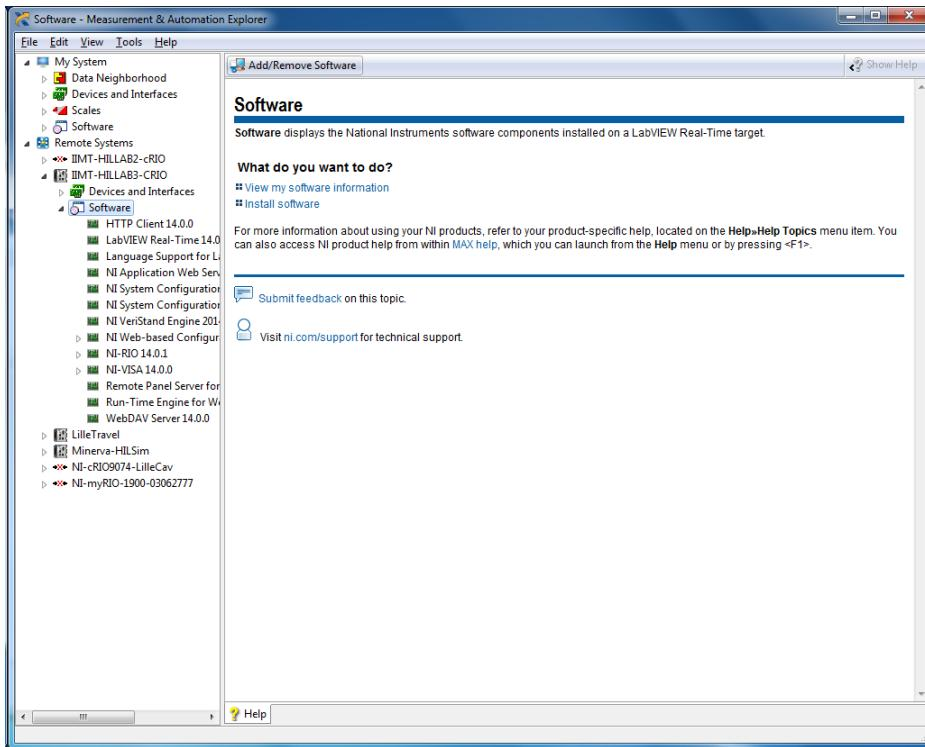

Figure 19: NI MAX - Software Update 1
3. Click Software, and then Add/Rem ove Software located on the top pane, see Figure 19